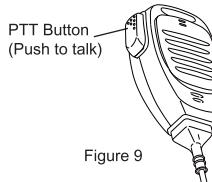

Figure 9
- Hold the microphone about 2" from your mouth when speaking and press the [PTT] (push to talk) button. (Figure 9) The red LED lights during call.
- Release [PTT] to return to the receive/listen (RX) mode. To receive your radio must be switched to the proper channel and set with matching signaling or Color Code and Group ID if used in digital mode.